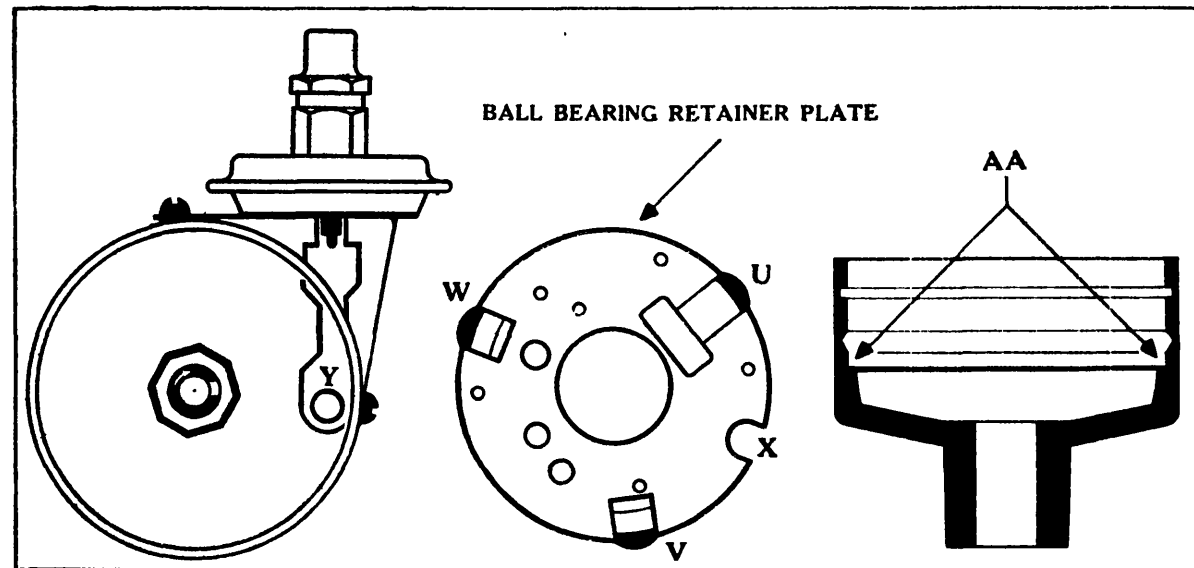

Fig. 14
2. Refer to Fig. 14. Drop ball bearing retainer plate into distributor cup, making sure that slot "X" is directly over hole "Y" in vacuum control unit lever, and that the three ears "U", "V" and "W" on the breaker plate, come to rest on the projecting shelf "AA" in bottom of distributor cup.